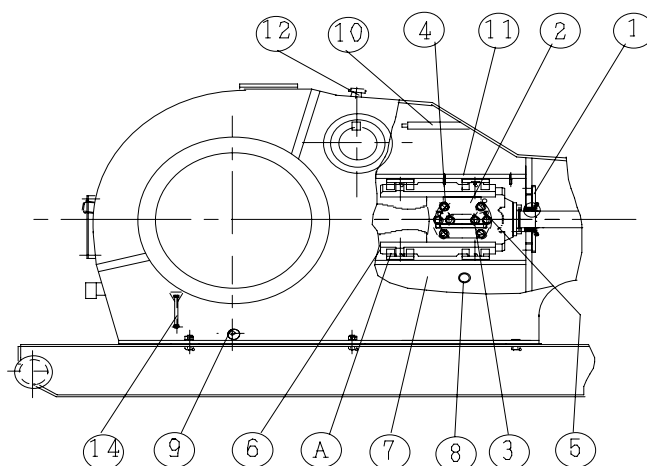

Fig. 23 Installation of Crosshead Assembly
(1) Fender plate (2) Crosshead pin baffle (3) Bolt (4) Bolt (5) Screw hole (6) Lower guide plate (7) Rack (8) Drain hole (9) Pipe plug (10) Oil collector (11) Upper guide plate (12) Vent cap (14) Oil level meter
4) Install the crosshead pin baffle (2) and bolt (3). At this time, rotate the crosshead pin to align the four bolt holes (4). Install the four bolts and tighten them with hands, as referred to Fig. 23, the oil sump shall be upward.